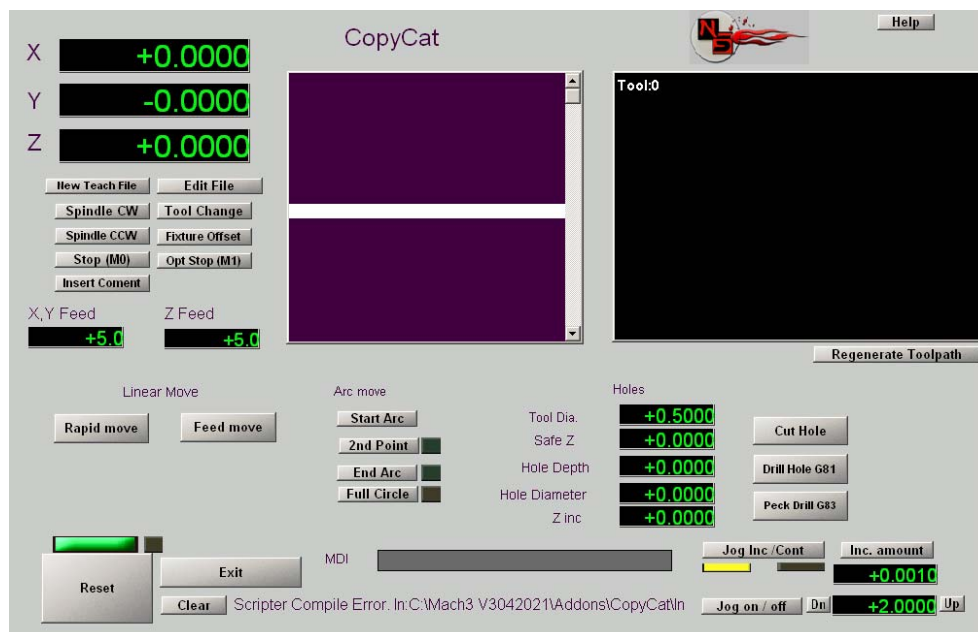

FIGURE 5.1
5.1 The main screen is divided into logical areas as shown in Figure 5.1 below. You have DRO's, basic commands, feeds, type of move selection, Gcode text screen, hole drilling and cut hole operations, MDI line for manual code input, and jogging controls. You can also exit and reset Copycat.